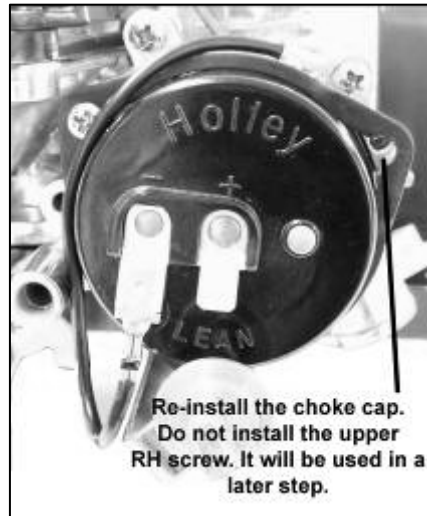

Figure 10
7. Install the electric choke cap and retaining ring. Install only the LH and bottom screws in this step. The RH screw will be installed later. (See figure 10) Install the ring so it bows outward from the choke cap. Tighten it enough to hold the cap in place, but allow it to be rotated.